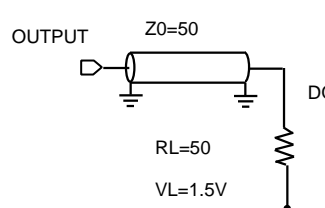
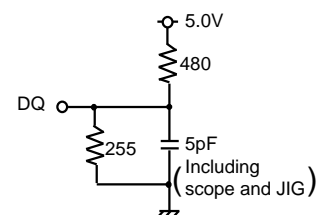

Fig.1 Output load
Fig.2 Output load for t_{en}, t_{dis}
Output loads Fig1, Fig2
4. Transition is measured $\pm 500\text{mV}$ from steady state voltage with specified loading in Figure 2.